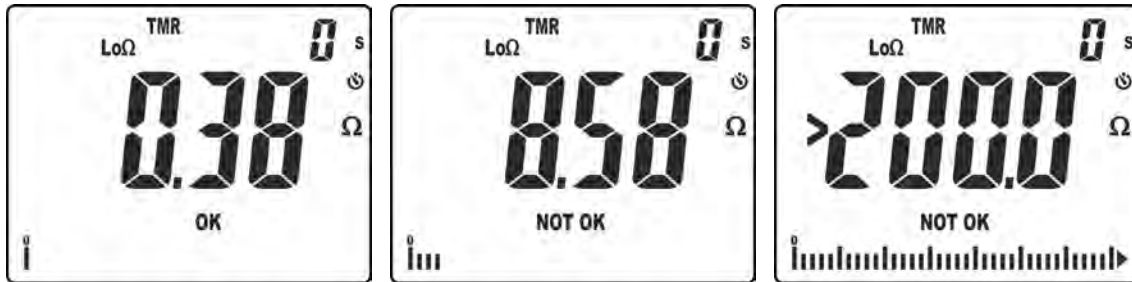

Fig. 31: Results of continuity test in TMR mode
10. In the screen in Fig. 31 – left side, a positive test result “OK” is shown (value lower than the set threshold and test current $>200mA$). In the screen in Fig. 31 – middle, a negative test result “NOT OK” is shown (value higher than the set threshold and test current $<200mA$). In the screen in Fig. 31 – right side, a negative test result “NOT OK” is shown, corresponding to the out-of-range condition (symbol “ >200.0 ”).